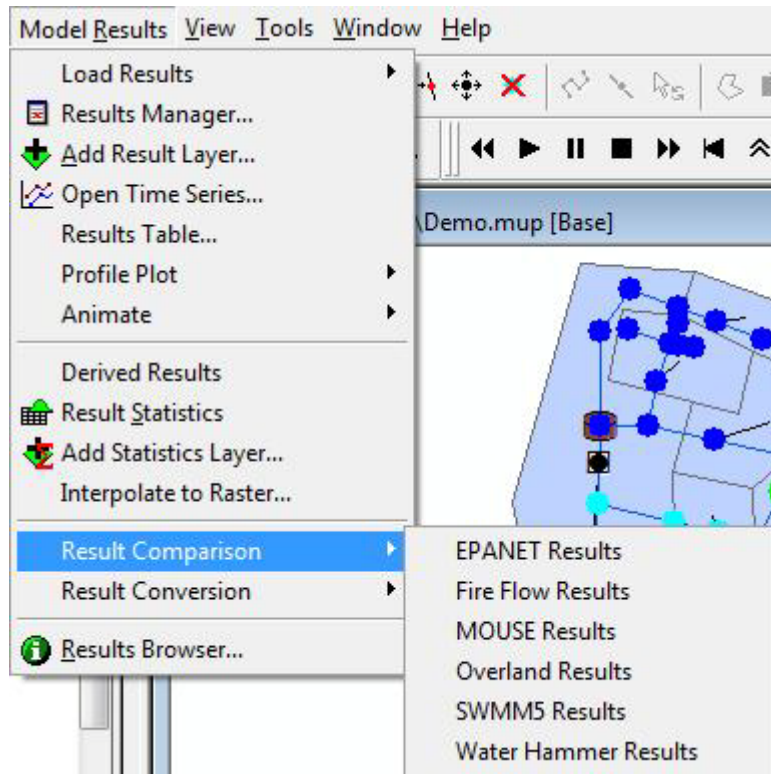

Figure 23.50 Loading result files for comparison of results
- Go to Model Results| Compare Results| ... and choose the relevant result files to compare, see Figure 23.50